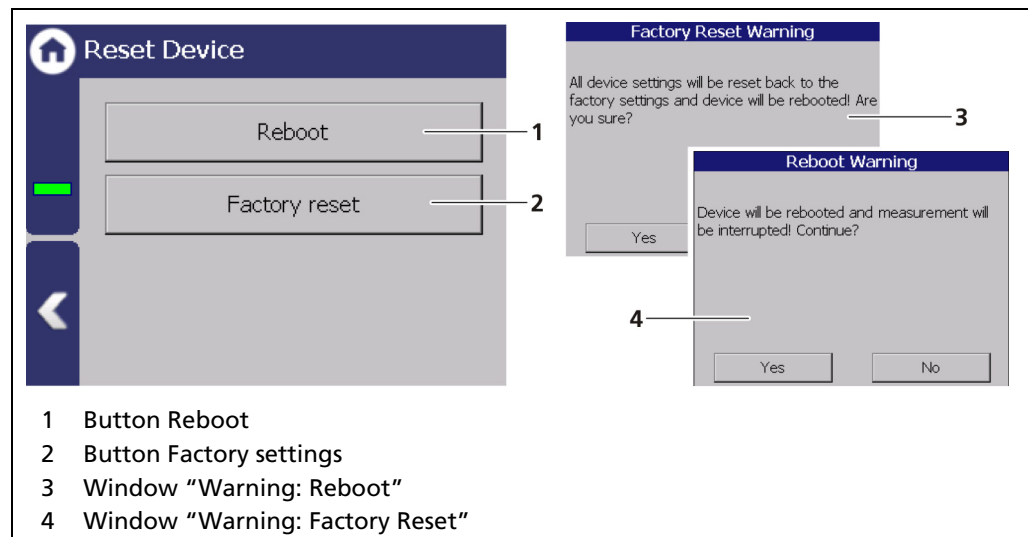

Fig. 51 Reset device
1. To restart the device, click the button <Restart> (Fig. 51, item 1).
- ▶ A window with a warning "Restart" (Fig. 51, item 3) opens.
1. To reset the evaluation unit to the factory settings, click the button <Factory settings> (Fig. 51, item 2).
- ▶ A window with the warning "Factory settings" (Fig. 51, item 4) opens.